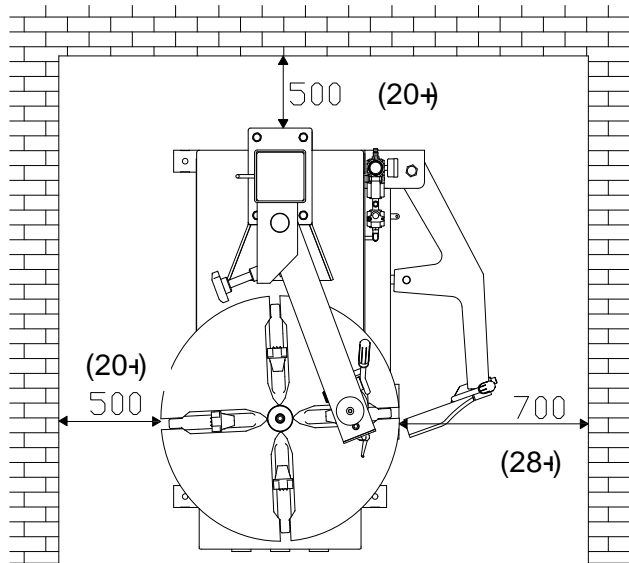

Fig. 1
- The operation space around the machine will not smaller than the indicated in Fig.1